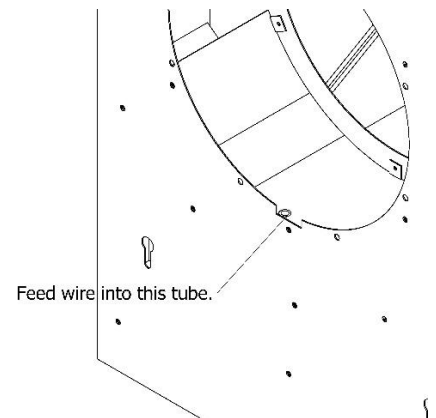

Figure 20
- 15.) Feed wires into metal tube that runs down the inside of the unit housing. See Figure 20.